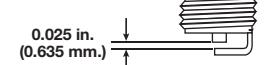

Fig. 18
- Replace a cracked, fouled or dirty spark plug. Set the air gap at 0.025 in (0.635 mm) using a feeler gauge (Fig. 18).